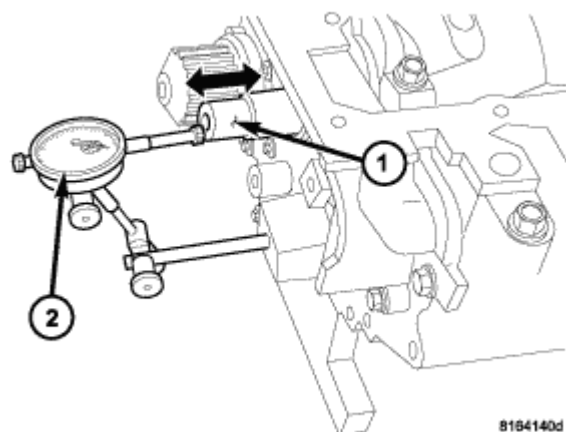

Fig. 172: Measuring Crankshaft End Play
1. Mount a dial indicator (2) to front of engine with the locating probe on nose of crankshaft (1). See **Fig. 172**.